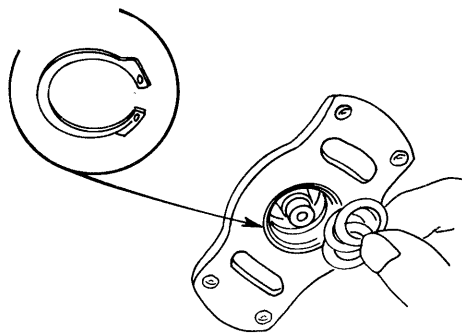

Fig. 3
- Insert the other 0.8mm shims and the other ring (closing pliers). (fig. 3).
- If there is too much side play, perform an adjustment using 0.1mm shims (fig. 3).